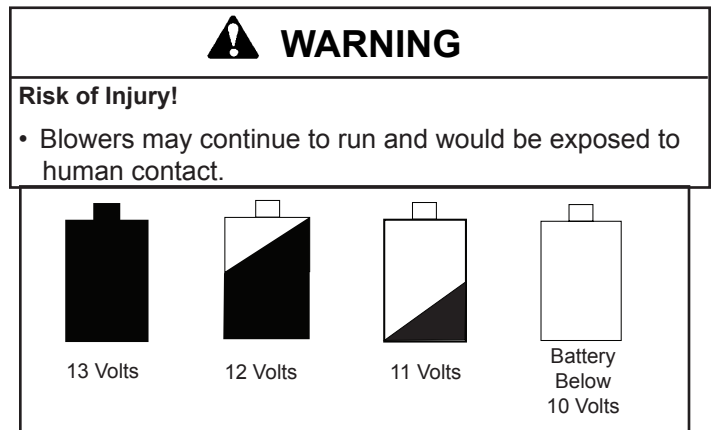

Figure 22.3
- A battery icon appears on your wall control to let you know you are now operating on battery power. **Figure 22.3.**